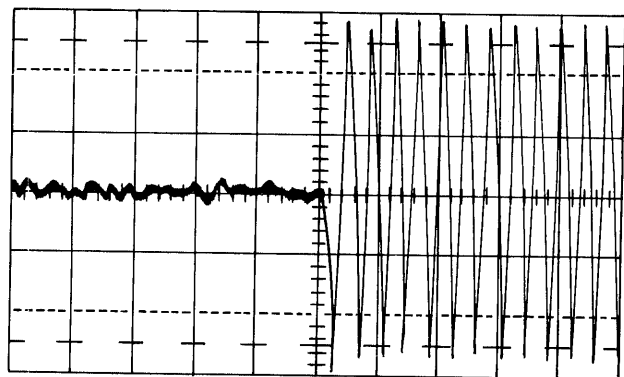

Figure 5-69. Gap Scatter Check
- aa. Monitor read data playback (see Figure 5-69).